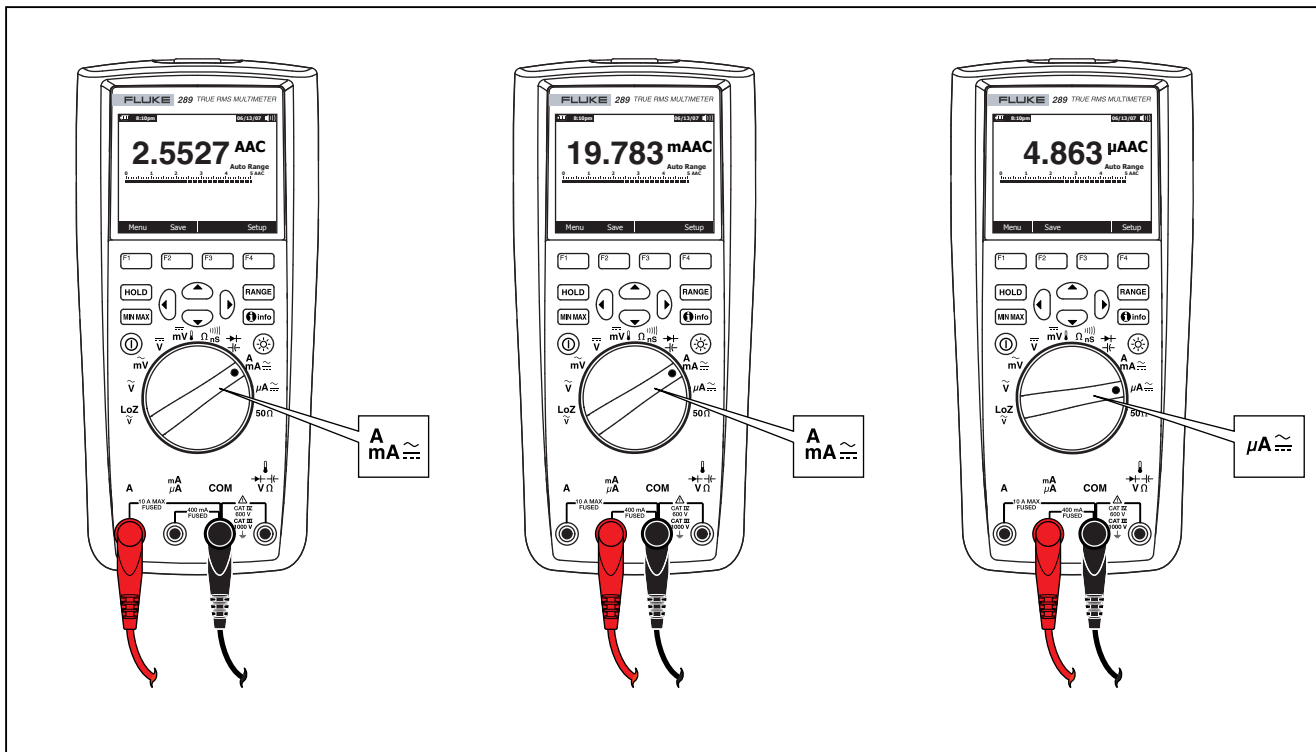

Figure 21. Current Measurement Setup
3. If you are using the A terminal, set the rotary switch to $\overset{\text{A}}{\text{mA}} \approx$. If you are using the mA/μA terminal, set the rotary switch to $\overset{\mu\text{A}}{\text{mA}} \approx$ for currents below 5000 μA (5 mA), or $\overset{\text{A}}{\text{mA}} \approx$ for currents above 5000 μA. See Figure 21 for test lead connections and function selection. Refer to the "Input Alert Feature" section for information on the alerts the Meter uses when leads are not used correctly for current measurements.